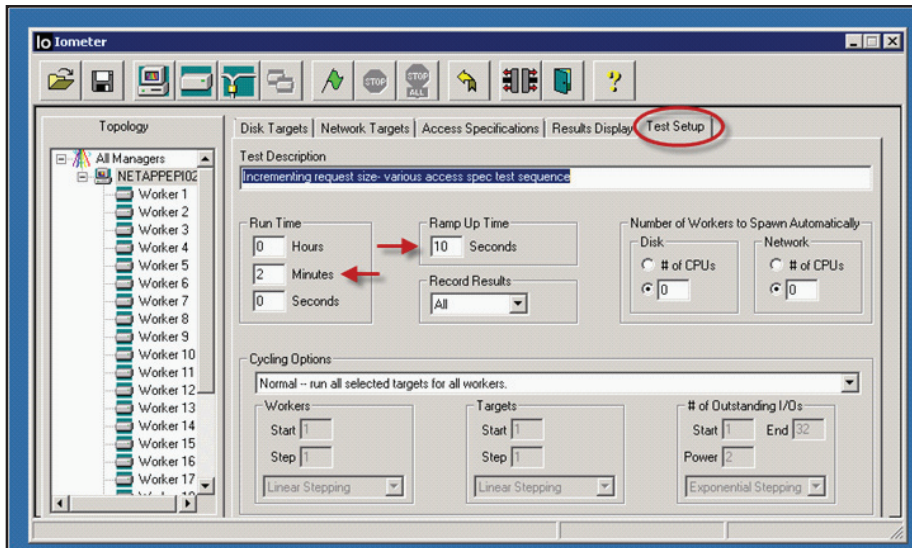

Figure 93
11. On the Iometer window, select the test setup section so that you can specify the test duration, ramp up time, etc. Figure 93 shows the sample.